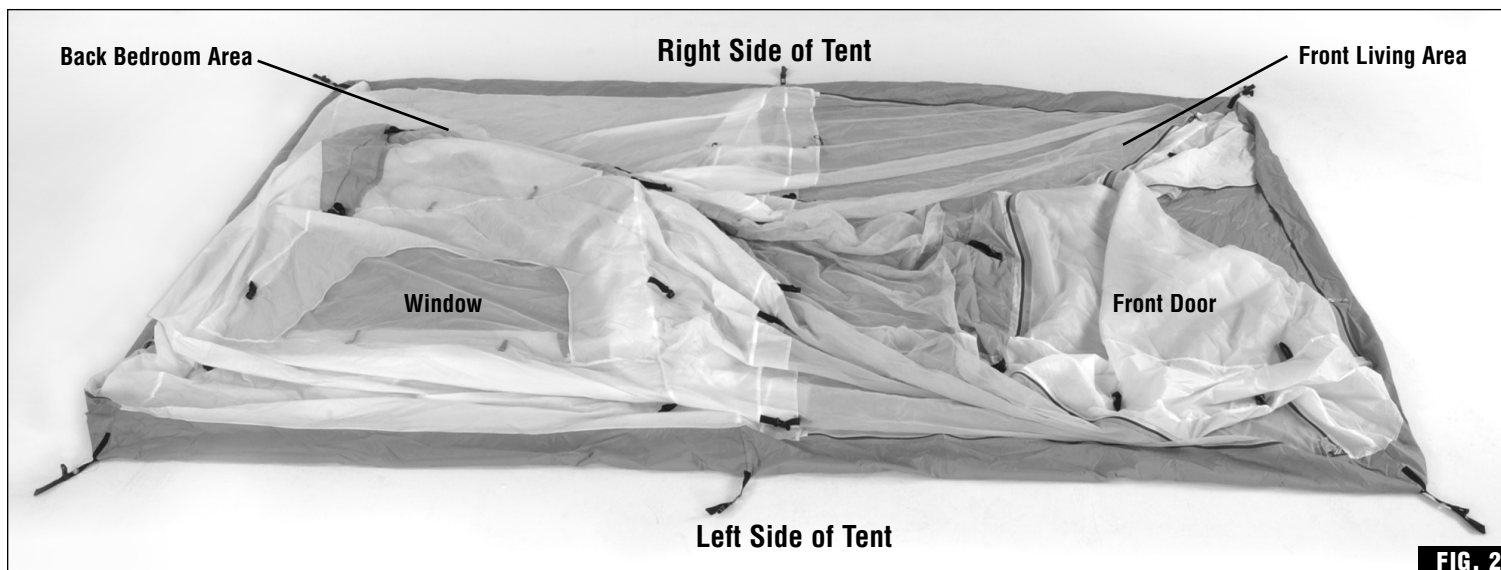

FIG. 2
2. Unfold tent and spread out on a clean, level surface with the Front Living Area Door facing the desired direction (Fig. 2). **NOTE:** Back Bedroom has a window on the left side of tent.